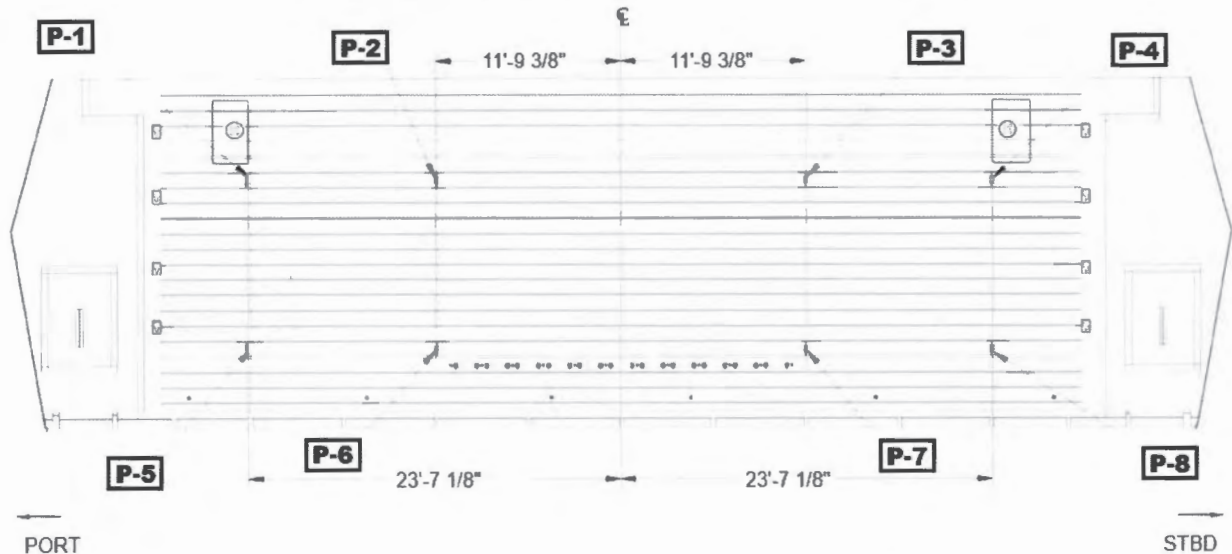

Figure 1-1: Location & Padeye ID (Lower Stern Gate)
- 1-1 The purpose of this test is to certify the temporary lifting padeyes (8 EA) installed on the lower stern gate. See Table 1-1 and Figure 1-1 for the location and the identification numbers of the padeyes.